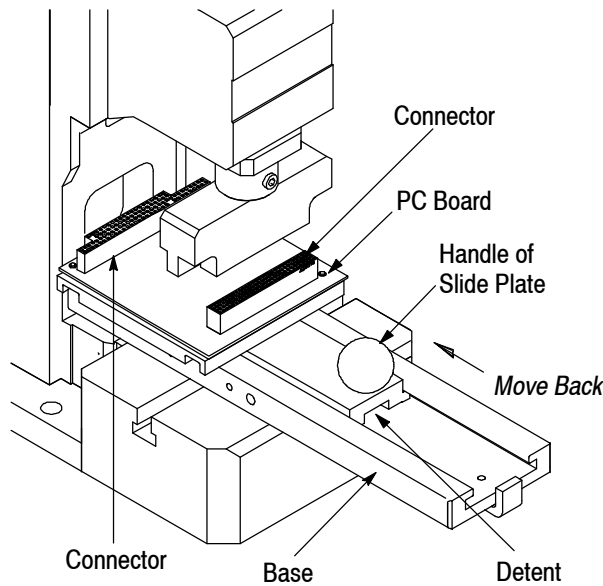

Figure 3
5. Place the connectors on the pc board as shown in Figure 3.